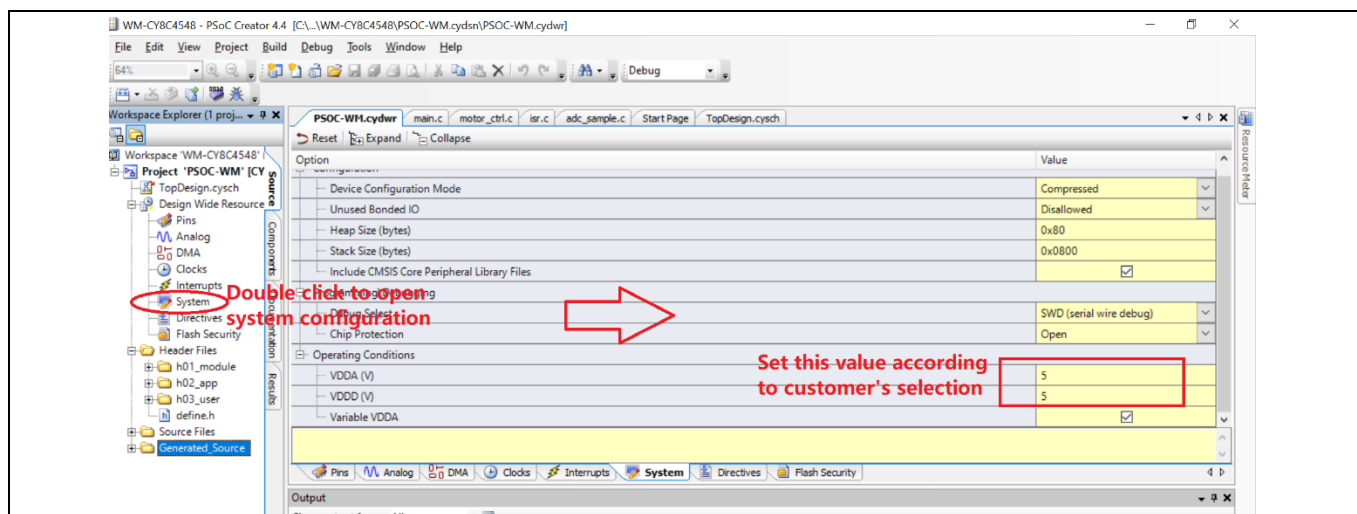

Figure 45 Setting System Voltage
- ADC_VOLT_REF: The ADC sampling reference voltage of system. If you choose 5 V in Figure 13 or use 5 V in your own systems, change this parameter to 5.0 and set it in PSoC Creator as shown in Figure 45.